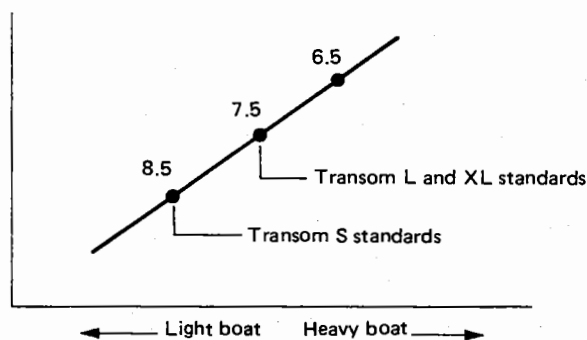

Fig.17.14
c. Propeller selection graph (see Fig.17.14)